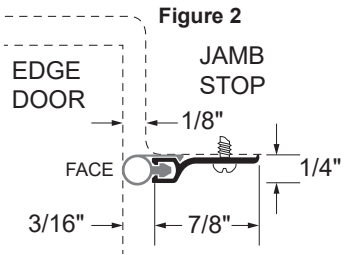

Figure 2
8. Adjust seal compression according to desired specifications by loosening the screws, rearrange the weatherstrip, and fasten the screws. Seal to be compressed to 3/16" without impeding proper door closing and latching. (See figure 2)